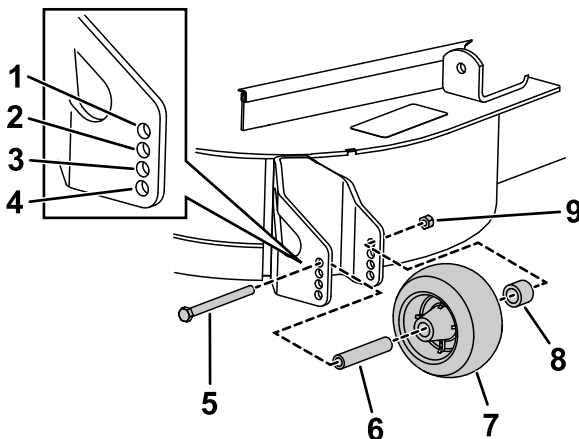

Figure 13
1. After adjusting the height-of-cut, adjust the rollers by removing the flange nut, bushing, spacer, and bolt (Figure 13).
3. Install the flange nut, bushing, spacer, and bolt. Torque to 54 to 61 N·m (40 to 45 ft-lb) (Figure 13).